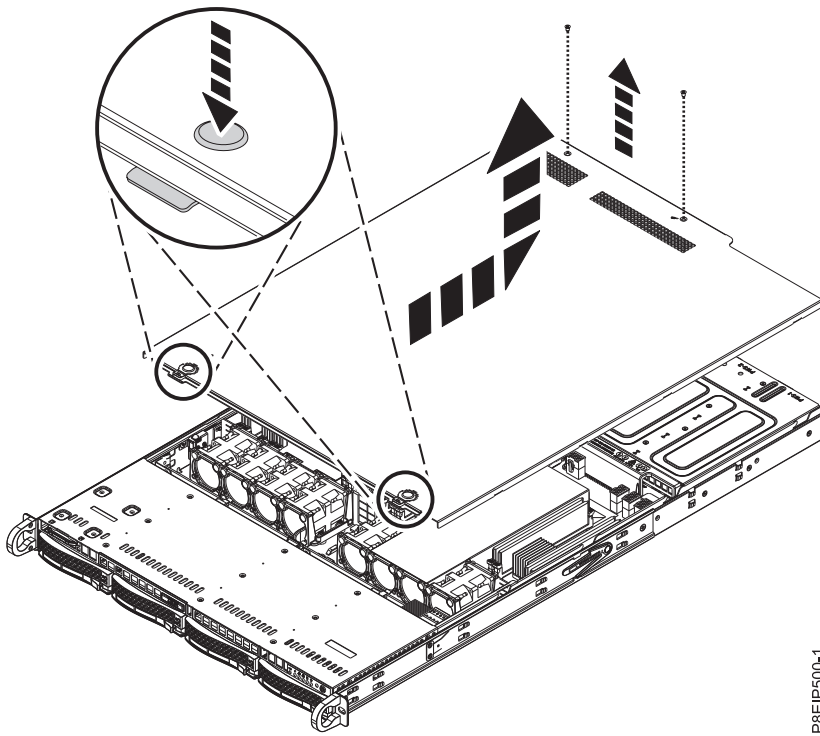

Figure 57. Releasing and opening the cover
2. Remove the two cover screws (1), from the rear of the cover.
3. Press both buttons on the top cover (2) to release the latches as shown in Figure 57, and push the cover back about 0.5 in (1 cm) until it stops. If the buttons do not easily press down, partially remove the drives directly under the buttons.